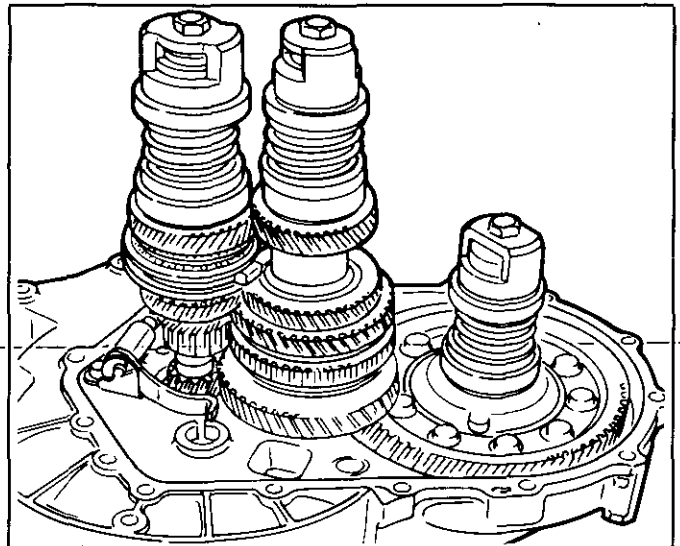

Figure 44 Gages in Position
- A. Position the outer bearing races on the input, output and differential bearings. Position the shim selection gages on the bearing races as shown in Figure 44. The 3 gages are identified: Input, Output and Differential.